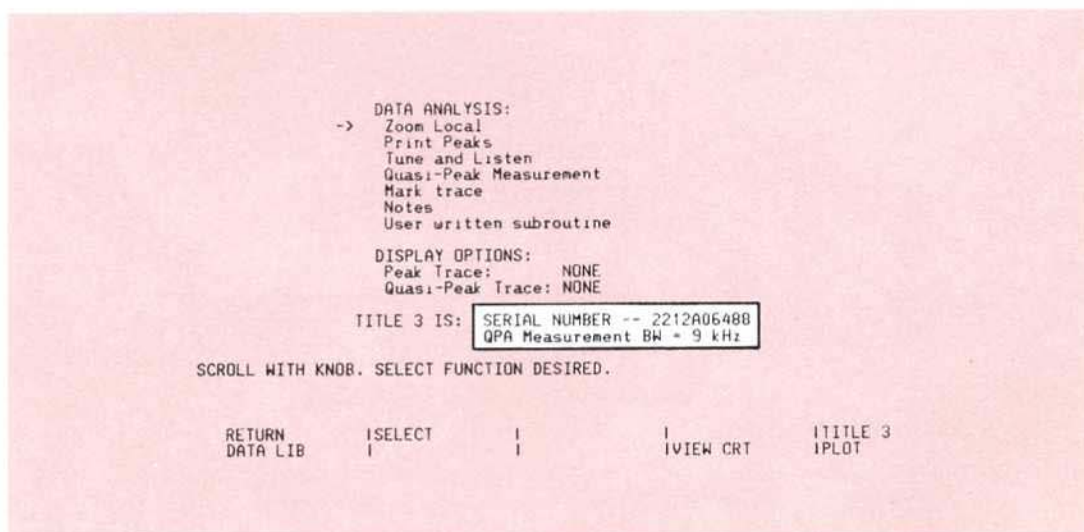

Figure 4. Analysis Menu Display
- Press **TITLE 3** softkey (see Figure 4)